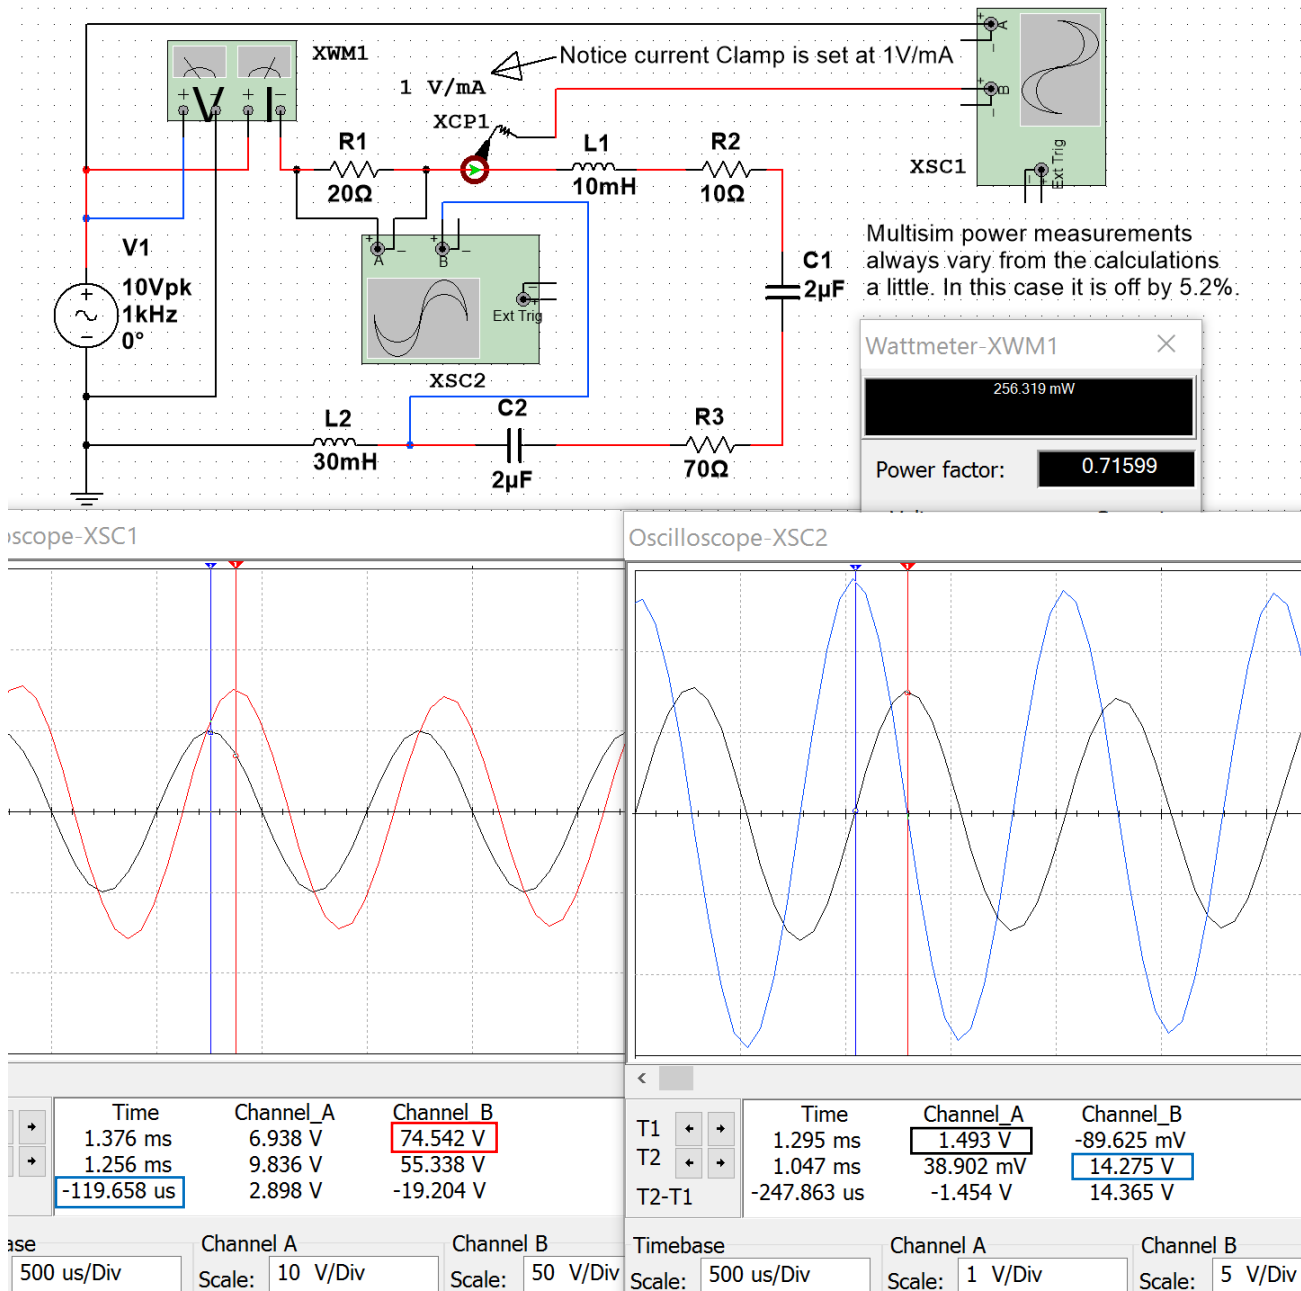

Figure 3.21: Circuit for Example 3.9
- Figure 3.21 shows  $V_{R1}$  and  $V_{L2}$  are  $90^\circ$  out of phase. Calculations agree  $\rightarrow \theta_{V_{L2}} - \theta_{V_{R1}} = 47.33^\circ - -42.67^\circ = 90^\circ$